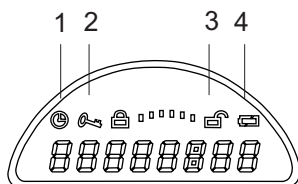
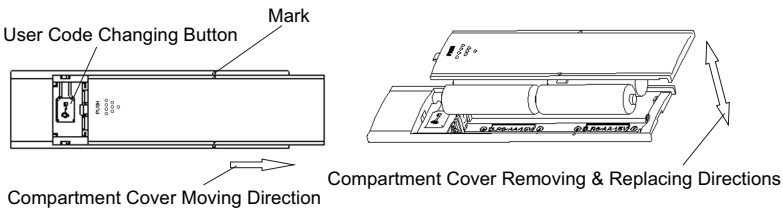

Figure 2
Figure 5 Removing the Compartment Cover
- ☐ Take out 4 AA batteries from inside the private container. Locate the battery compartment in the back of the door and remove the compartment cover (Figure 5, P.5 in User's Manual). Install the batteries into the compartment as per polarity marks indicated inside the compartment and replace the cover.
2. Press the '#' button and the prompt '🔑' will be displayed on the LCD screen (See Figure 2).
4. Locate the battery compartment in the door back. Remove its cover according to Figure 5. Press the user code changing button. The prompt '🔑' (See Figure 2) will be displayed on the LCD screen with two beeps to indicate that it's in process of changing the user code. **(Please replace the battery compartment cover after completion of changing the user code.)**
Enter your user code and the number you entered will be displayed on the LCD screen (See Figure 2).
Press the ' #' button and the prompt '🔑' will be displayed on the LCD screen (See Figure 2).
1. Locate the battery compartment in the door back. Remove its cover according to Figure 5. Press the user code changing button. The prompt '⌂' (See Figure 2) will be displayed on the LCD screen.
Push and remove the battery compartment cover according to Figure 5. Take out the old batteries and install the new ones properly into the compartment as the polarity marks show. Put and push the compartment cover into place.
Batteries installed incorrectly with wrong polarity placement or non-conformity batteries	Install the conformity batteries according to Figure 5